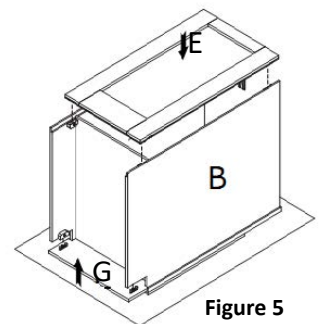
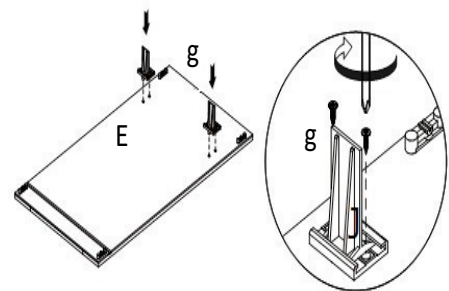

Figure 5
Figure 6
4. Installing the Back Panel and Toe Kick (Figure 5): Before you start this step, put the back panel (E) on a flat surface facing upward. Install the drawer rail holders (g) in the pre-spotted area on the back panel (Figure 6). The opening of the holders should be facing towards each other. Secure them with 2 flat head screws (e) each. (Figure 6). Then put the back panel (E) at rear of side panels (B) (Figure 5). Align and lock each cam lock. Install the Toe Kick (G) by locking the cam lock at both ends (Figure 5).
5. Installing the Shelf: Stand the assembled cabinet upright with the frame facing you. Insert the shelf clips (d) into the pre-drilled holes on the side panels at the desired height and install the shelf (F) from the top locking it into the clips.